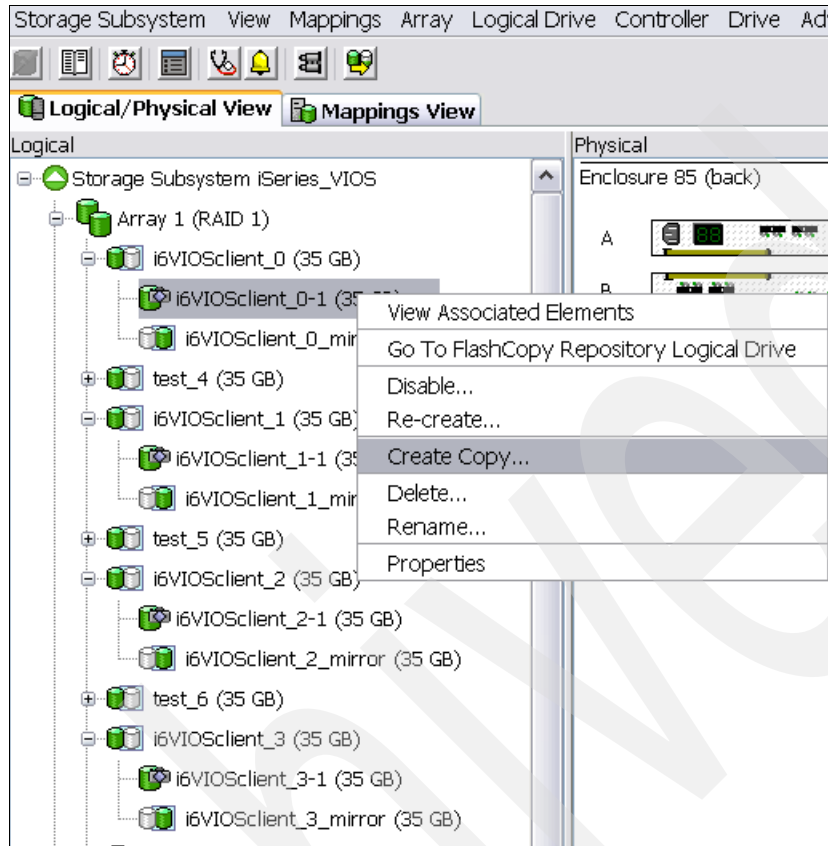

Figure 8-21 Create Copy
4. In DS Storage Manager → Subsystem Management Logical / physical view right-click **FlashCopy logical volume** and select **Create Copy**. See Figure 8-21.